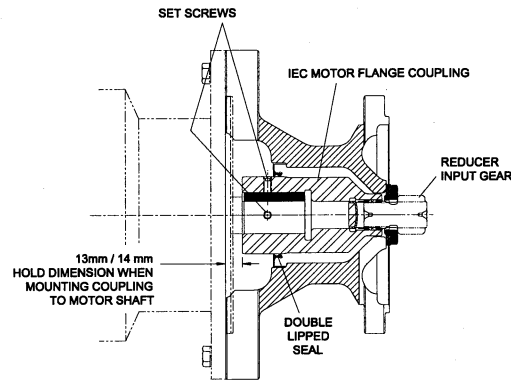

Figure 2.3.1c IEC Cross Section
2.b. **IEC MOTOR FLANGE COUPLING:** Locate the coupling 13.0 to 14.0mm from the motor face. Refer to the illustration in **Figure 2.3.1c**.